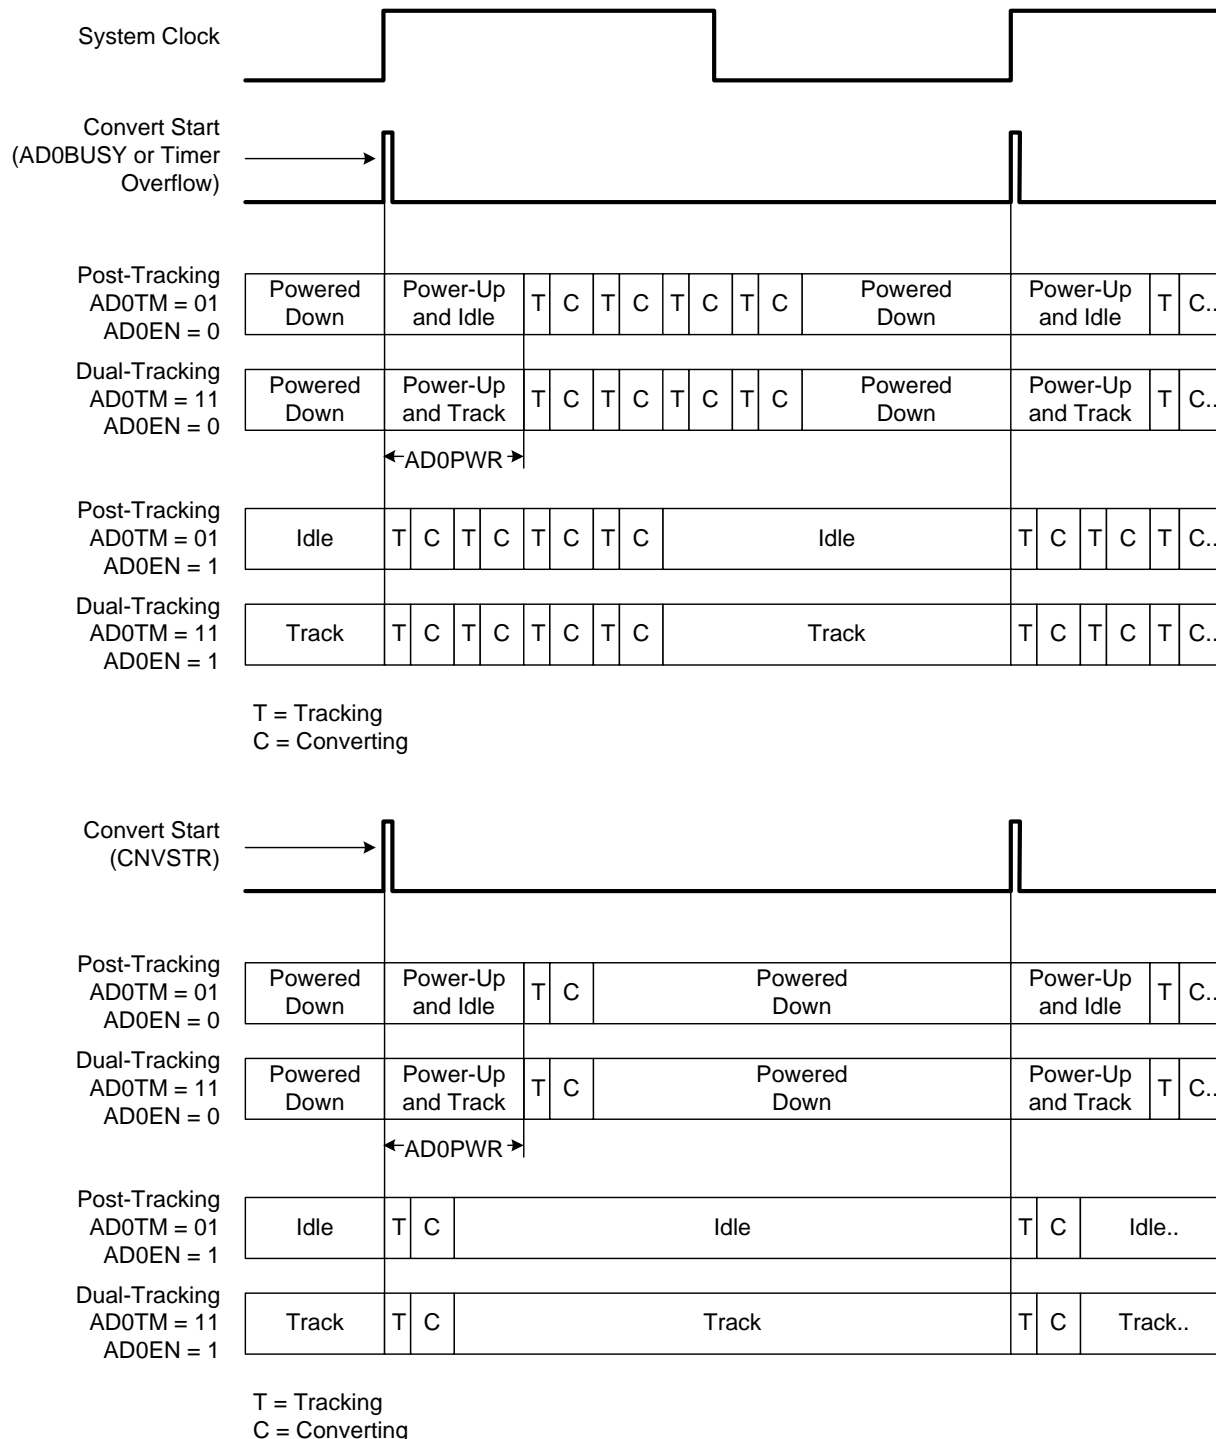

Figure 5.3. Burst Mode Tracking Example with Repeat Count Set to 4
Burst Mode is enabled by setting BURSTEN to logic 1. When in Burst Mode, AD0EN controls the ADC0 idle power state (i.e. the state ADC0 enters when not tracking or performing conversions). If AD0EN is set to logic 0, ADC0 is powered down after each burst. If AD0EN is set to logic 1, ADC0 remains enabled after each burst. On each convert start signal, ADC0 is awakened from its Idle Power State. If ADC0 is powered down, it will automatically power up and wait the programmable Power-Up Time controlled by the AD0PWR bits. Otherwise, ADC0 will start tracking and converting immediately. Figure 5.3 shows an example of Burst Mode Operation with a slow system clock and a repeat count of 4.
- A rising edge of external start-of-conversion (CNVSTR) will cause only one ADC conversion in Burst Mode, regardless of the value of the Repeat Count field. The end-of-conversion interrupt will occur after the number of conversions specified in Repeat Count have completed. In other words, if Repeat Count is set to 4, four pulses on CNVSTR will cause an ADC end-of-conversion interrupt. Refer to the bottom portion of Figure 5.3, “Burst Mode Tracking Example with Repeat Count Set to 4,” on page 73 for an example.